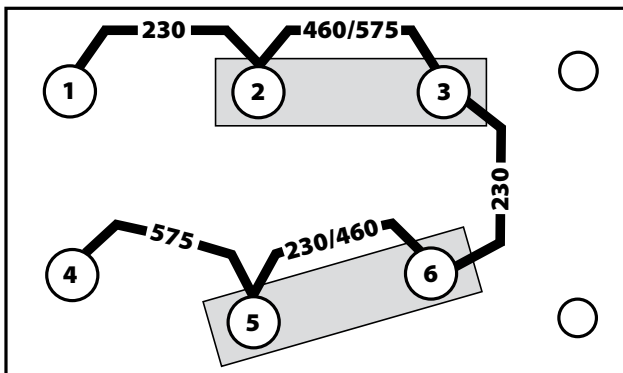

Figure 2-3. Input Terminal Board Configuration for 460V Input
1. Connect all welding cables to workpiece and electrode holder as shown on the Interconnection Diagram, Fig. 2-3.
1. Make the necessary welding power and service connections as shown on the Interconnection Diagram, Fig. 2-3.